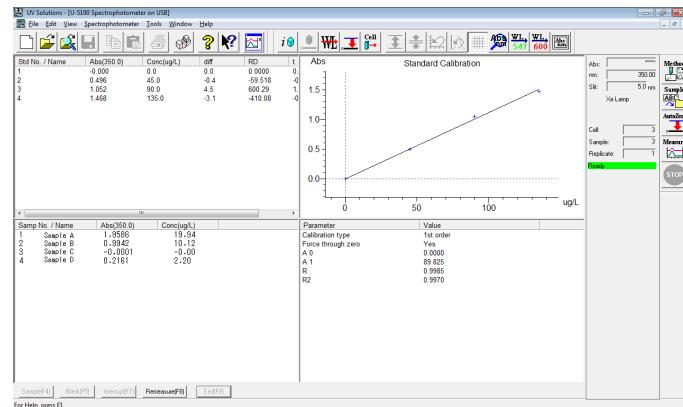

Fig. 4-59
- (d) A monitor window in which the entered sample names are brought will appear as shown in Fig. 4-59.